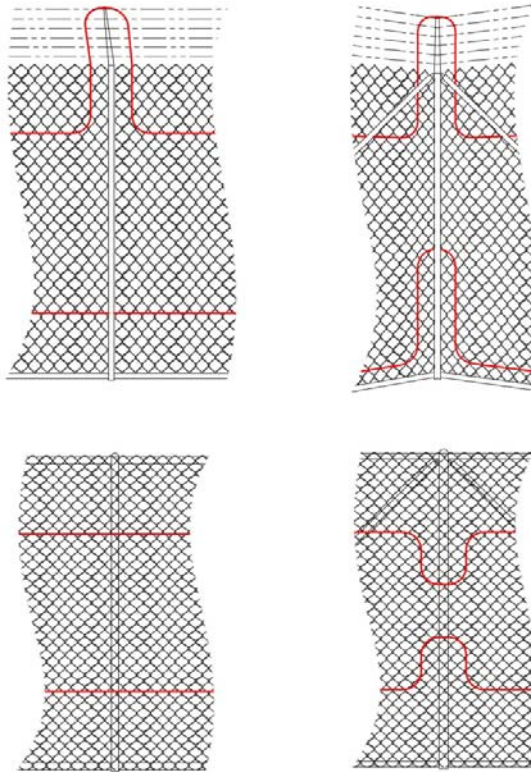

Figure 9. For extra security use additional loops of sensing cable for posts and corner posts.
3. Use additional loops of sensor cable on posts. When there are outriggers, extend the loops to the top of the outrigger to add protection against intruders climbing the fence posts (see figure 9).